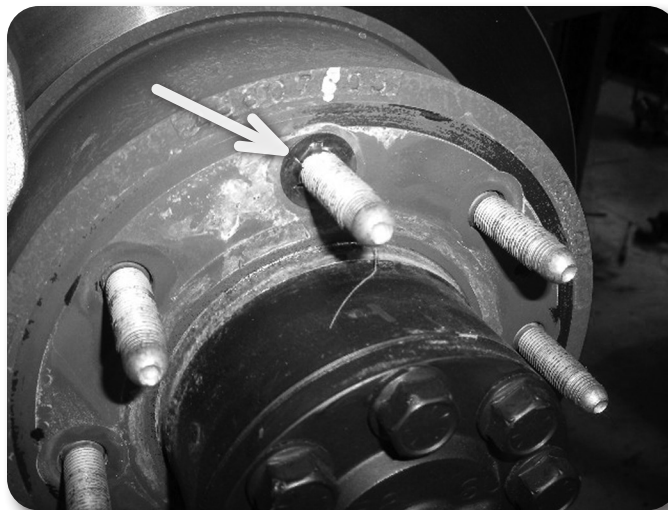

Figure 22
12. If installed remove clips on wheels Figure 22. Reinstall wheels and lower vehicle to the ground.